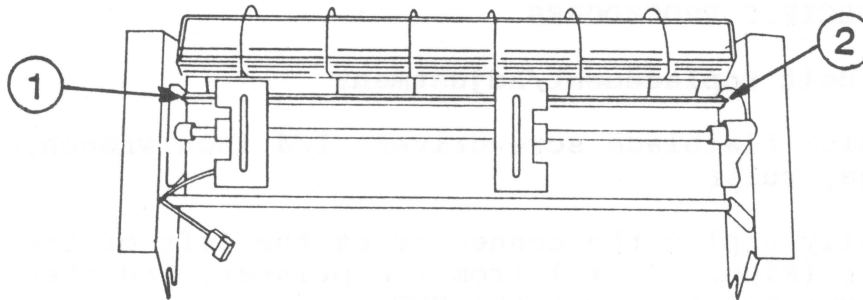

FIGURE 4
If the plastic surfaces of the DWP-FT become soiled, use Formula 409 or any mild soap solution to clean them. Lubricate the Forms Tractor with Tellus oil (Apple P/N 970-0006). Every 18 months, put one drop of oil on each location pointed out in Figures 4 and 5 (see instructions below). In harsh environments and heavy usage applications, more frequent lubrication may be necessary.
2. Put one drop of Tellus oil at each end of the square drive shaft (see Figure 4, #1 and #2).